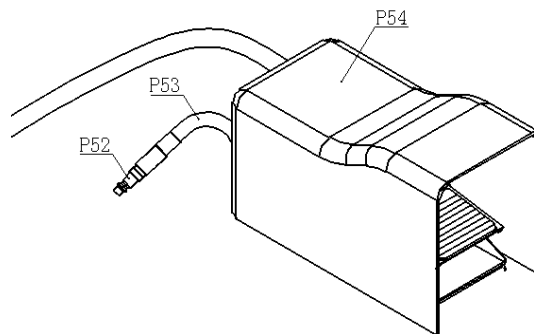

Fig. 9
15.3.1 Connecting the air hose (P52) of the air foot valve (P54) to the compressor. (refer to fig 9)
16.1.1.1 Connecting the air hose (P52) of air foot valve to the compressor. (fig 9)
16.2.1.1 Connecting the air hose (P52) of air foot valve to the compressor. (fig 9)
**16.3** To stop the movement of the piston rod: stop pumping the handle tube (50) or release the air foot valve (P54), the piston rod will stop moving. Then turn the handle lever (99) of selector valve to position 2. (fig 9)